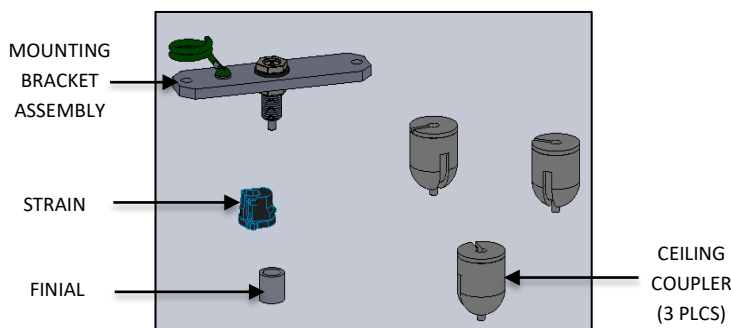

FIG. 6 - MOUNTING KIT CONTENTS
- b. MOUNTING KIT (as shown in FIG. 6)
- iv. THREE (3) CEILING COUPLER (CC)